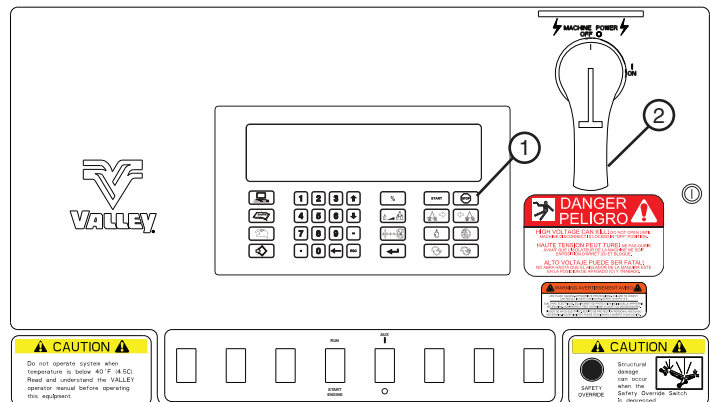

Figure 37-2 AutoPilot Control Panel Shown
1. Press the STOP key. See figure 37-2.
2. Turn the main disconnect switch to the OFF position. See figure 37-2.